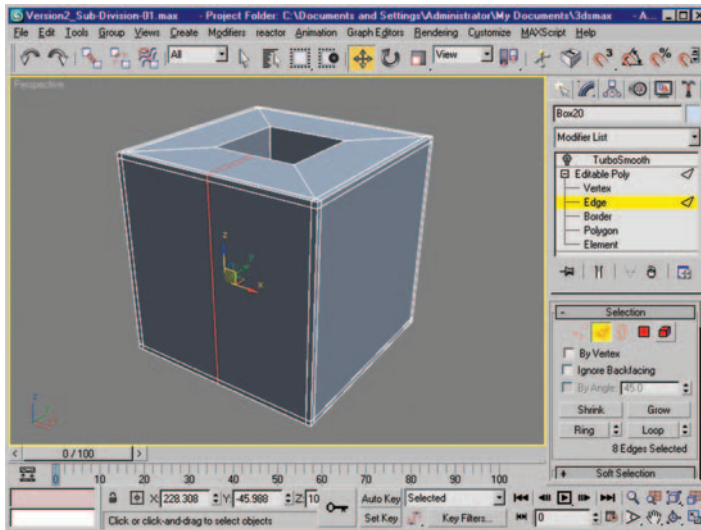

Figure 6.29 Edge ring after using *Connect* to create a new loop of edges.
6. Use Connect (Ctrl+Shift+E) to create a new division to the edge-ring selection. You should be creating only a single new edge loop; if not, then reset your Connect settings box (Figure 6.29).